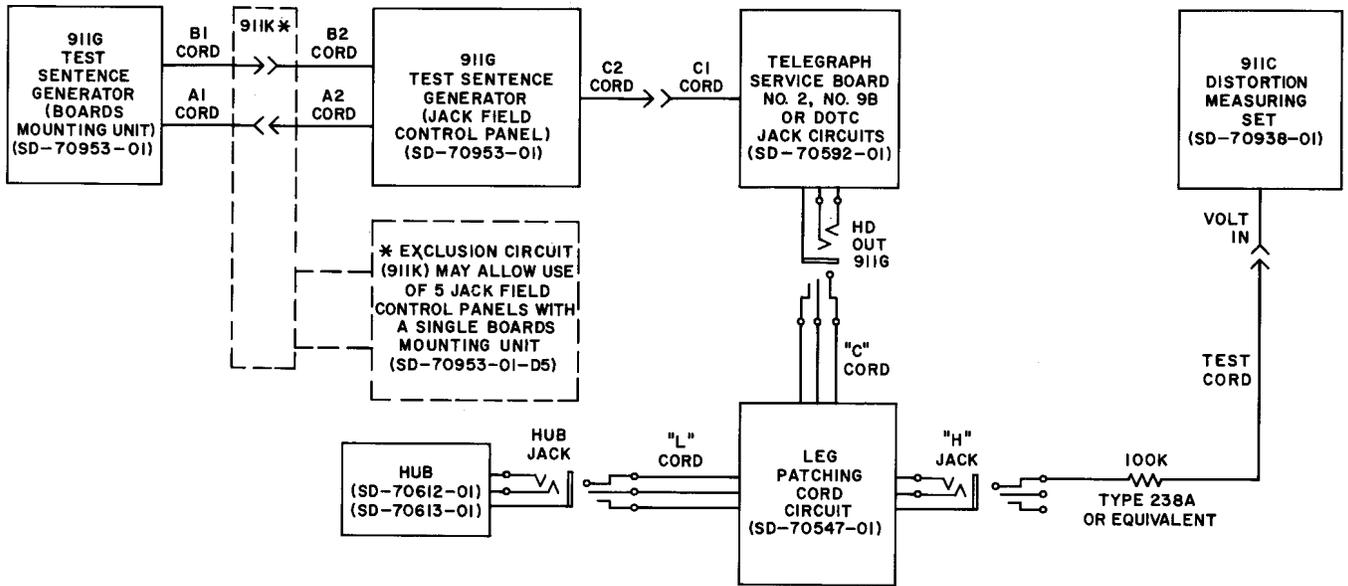

Fig. 3—911G Test Sentence Generator to 911C Distortion Measuring Set Test Connections
2.12 Disconnect the TTY and connect the DMS as shown in Fig. 3.